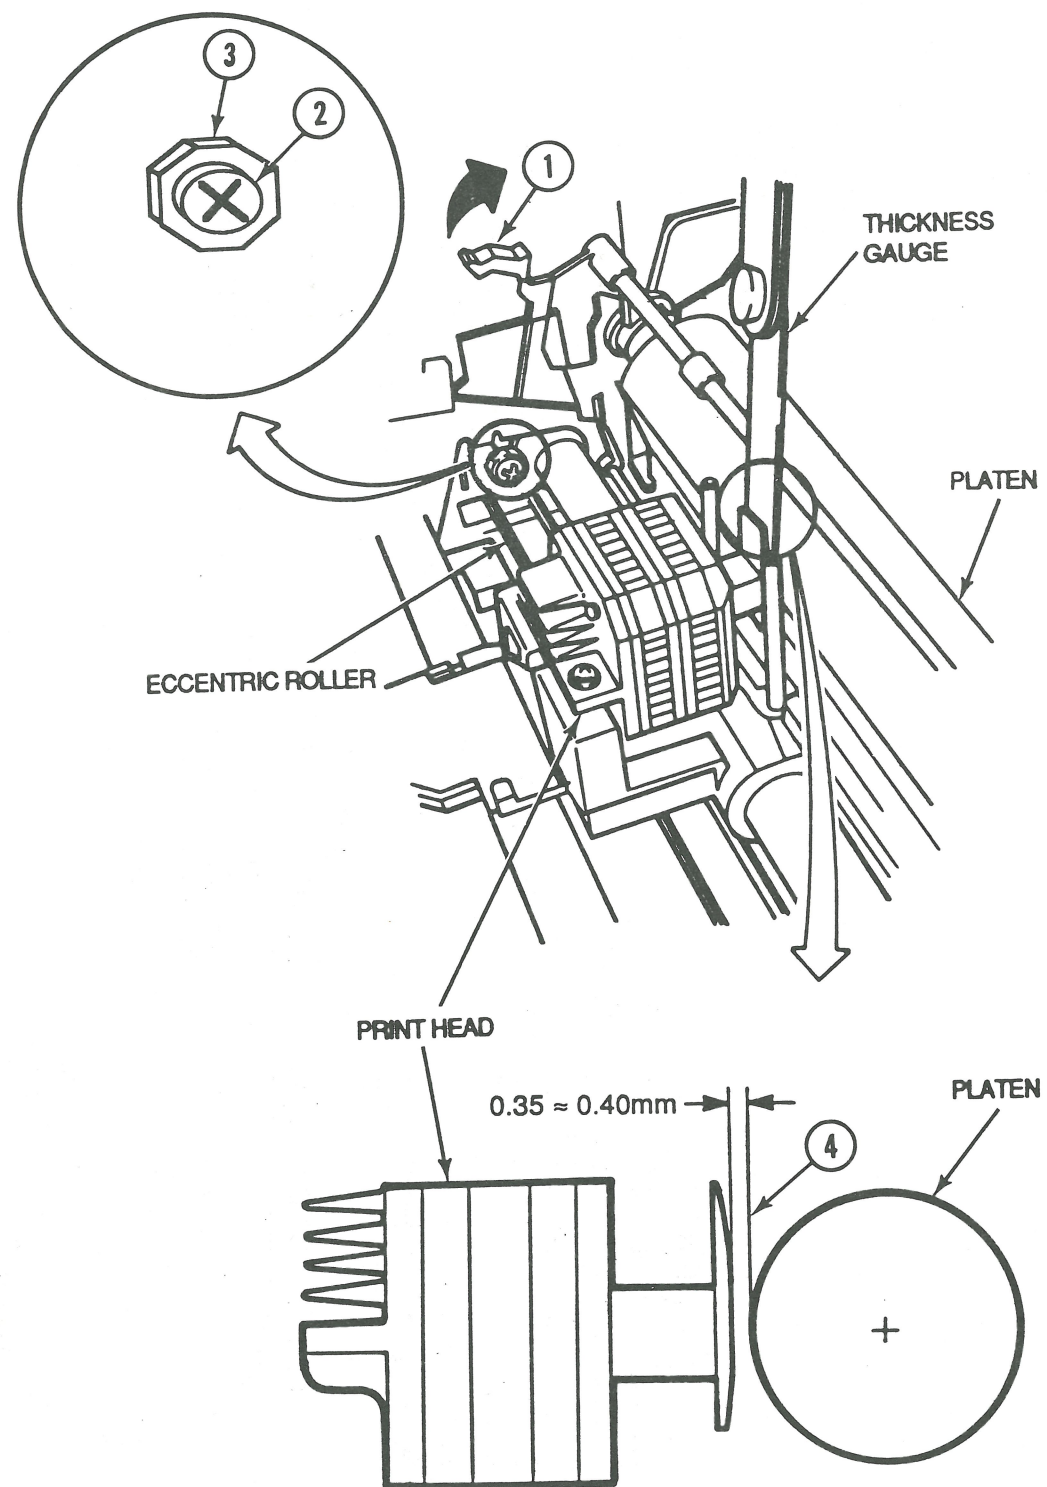

FIGURE 3
5. Push the paper thickness lever (Figure 3, #1) toward the back of the printer, to the number-one position.
6. Loosen the eccentric roller set screws on both the left (Figure 3, #2) and right sides of the printer.
7. Adjust the gap, with the carrier assembly at the extreme left of the platen, by turning the hexagon-shaped nut on the left eccentric roller (Figure 3, #3) and then on the right eccentric roller.
- a) You should be able to insert a 0.35 mm thickness gauge (Figure 3, #4), but not a 0.4 mm gauge, between the print head and the platen.